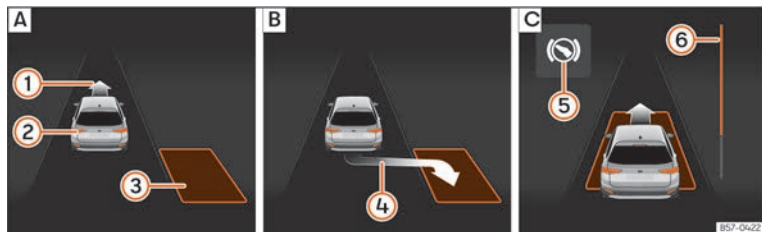
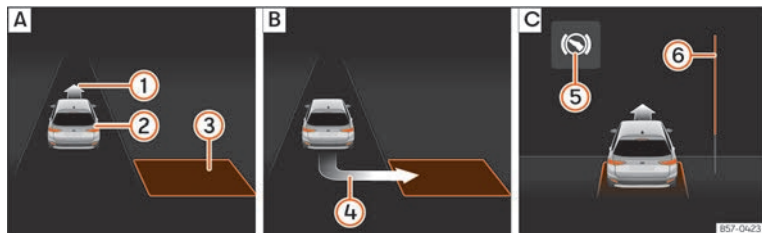

Fig. 203 On the instrument panel display: parallel parking. **[A]** Finding a parking space. **[B]** Parking position. **[C]** Manoeuvring.
Fig. 204 On the instrument panel display: angle parking. **[A]** Finding a parking space. **[B]** Parking position. **[C]** Manoeuvring.
- Look at the display on the instrument panel to see if the space has been detected as “appropriate” and if the correct position for parking has been reached »» Fig. 203 [B] or »» Fig. 204 [B]. The space is considered
- Reverse until the continuous ParkPilot signal sounds; **OR:** reverse until the indication to move forward appears on the instrument panel display »» Fig. 203 [C] or »» Fig. 204 [C]; **OR:** reverse until the **Park Assist finished** message appears on the instrument panel display. The progress bar (6) indicates the distance to cover »» page 288.
- Press the brake pedal until the parking assist system completes the steering wheel turns; **OR:** until the symbol (S) goes out on the instrument panel screen.
- Move forward until the continuous ParkPilot signal sounds; **OR:** move forward until the reverse indication appears on the instrument panel display. The Park Assist system steers the vehicle forward and back until it centres it in the space »» Fig. 203 [C] or »» Fig. 204 [C].
The progress bar »» Fig. 203 (6) and »» Fig. 204 (6) on the screen of the instrument panel displays the relative distance to be covered. The greater the distance, the fuller the progress bar. When driving forward, the content of the progress bar decreases upwards, and when reversing, it decreases downwards.